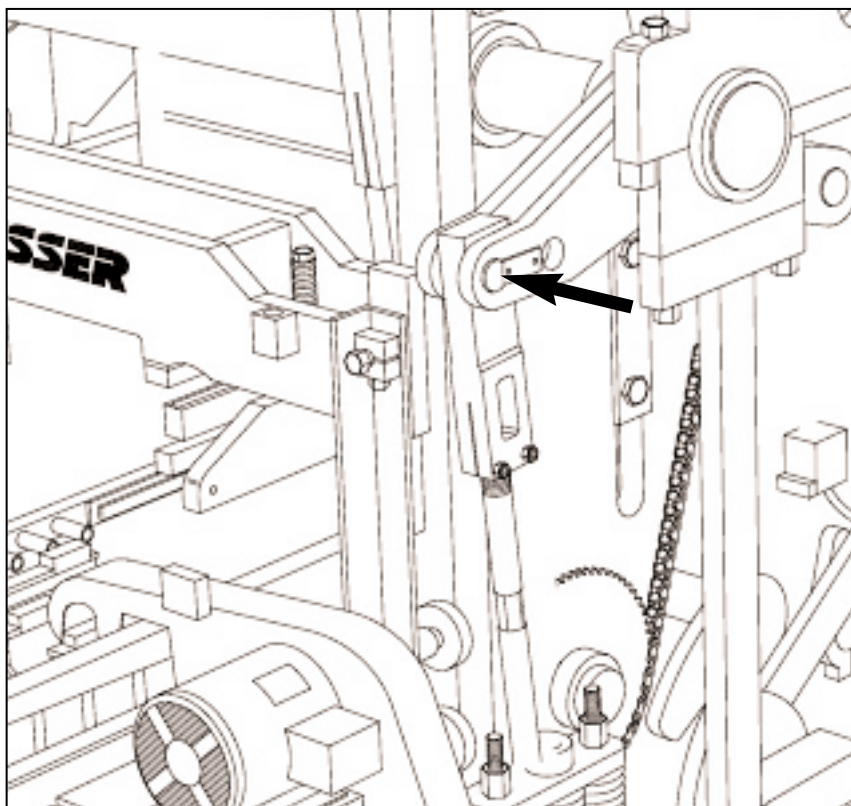

Figure 18.1 PALLET RECEIVER SHAFT POSITION.
18.1.1 The following items should be positioned as shown in figures 18.1 and 18.2:
- a. Pallet receiver shaft - position pins in outside holes (long stroke) (see figure 18.1 below).